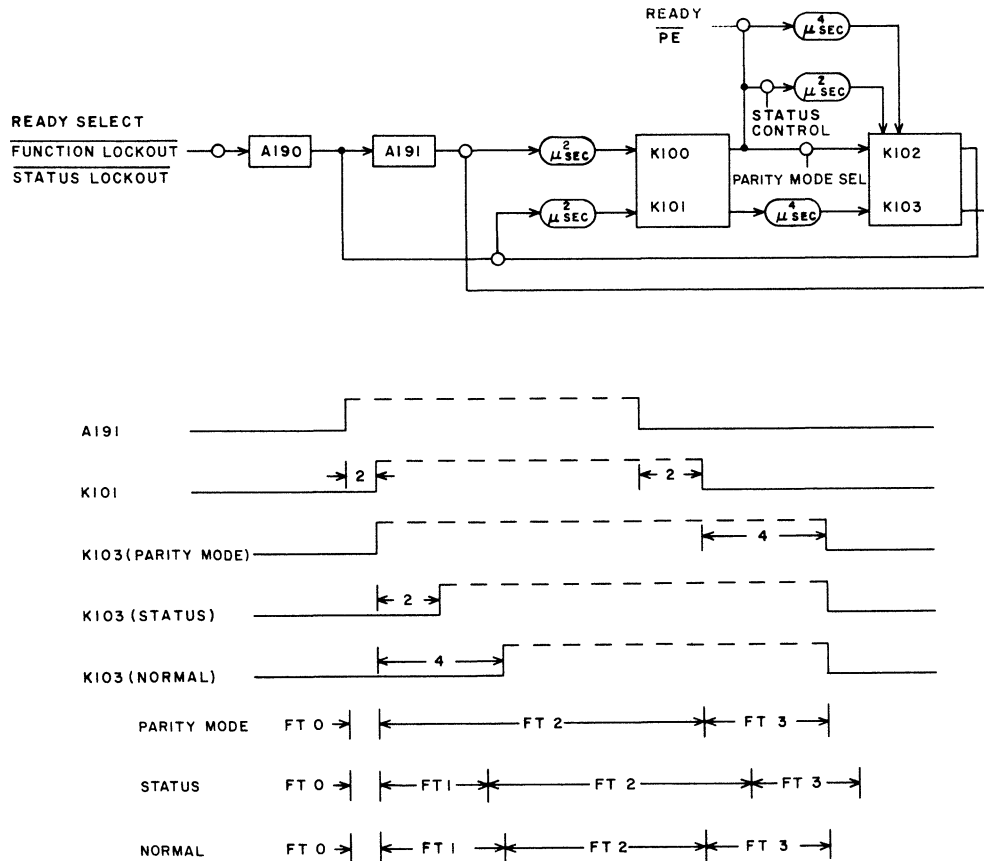

Figure 4-8. Function Timing Chain
The function timing chain (figure 4-8) is triggered by the Function Ready signal accompanying a 162 selection. The four function times (FT) follow automatically in most selections.